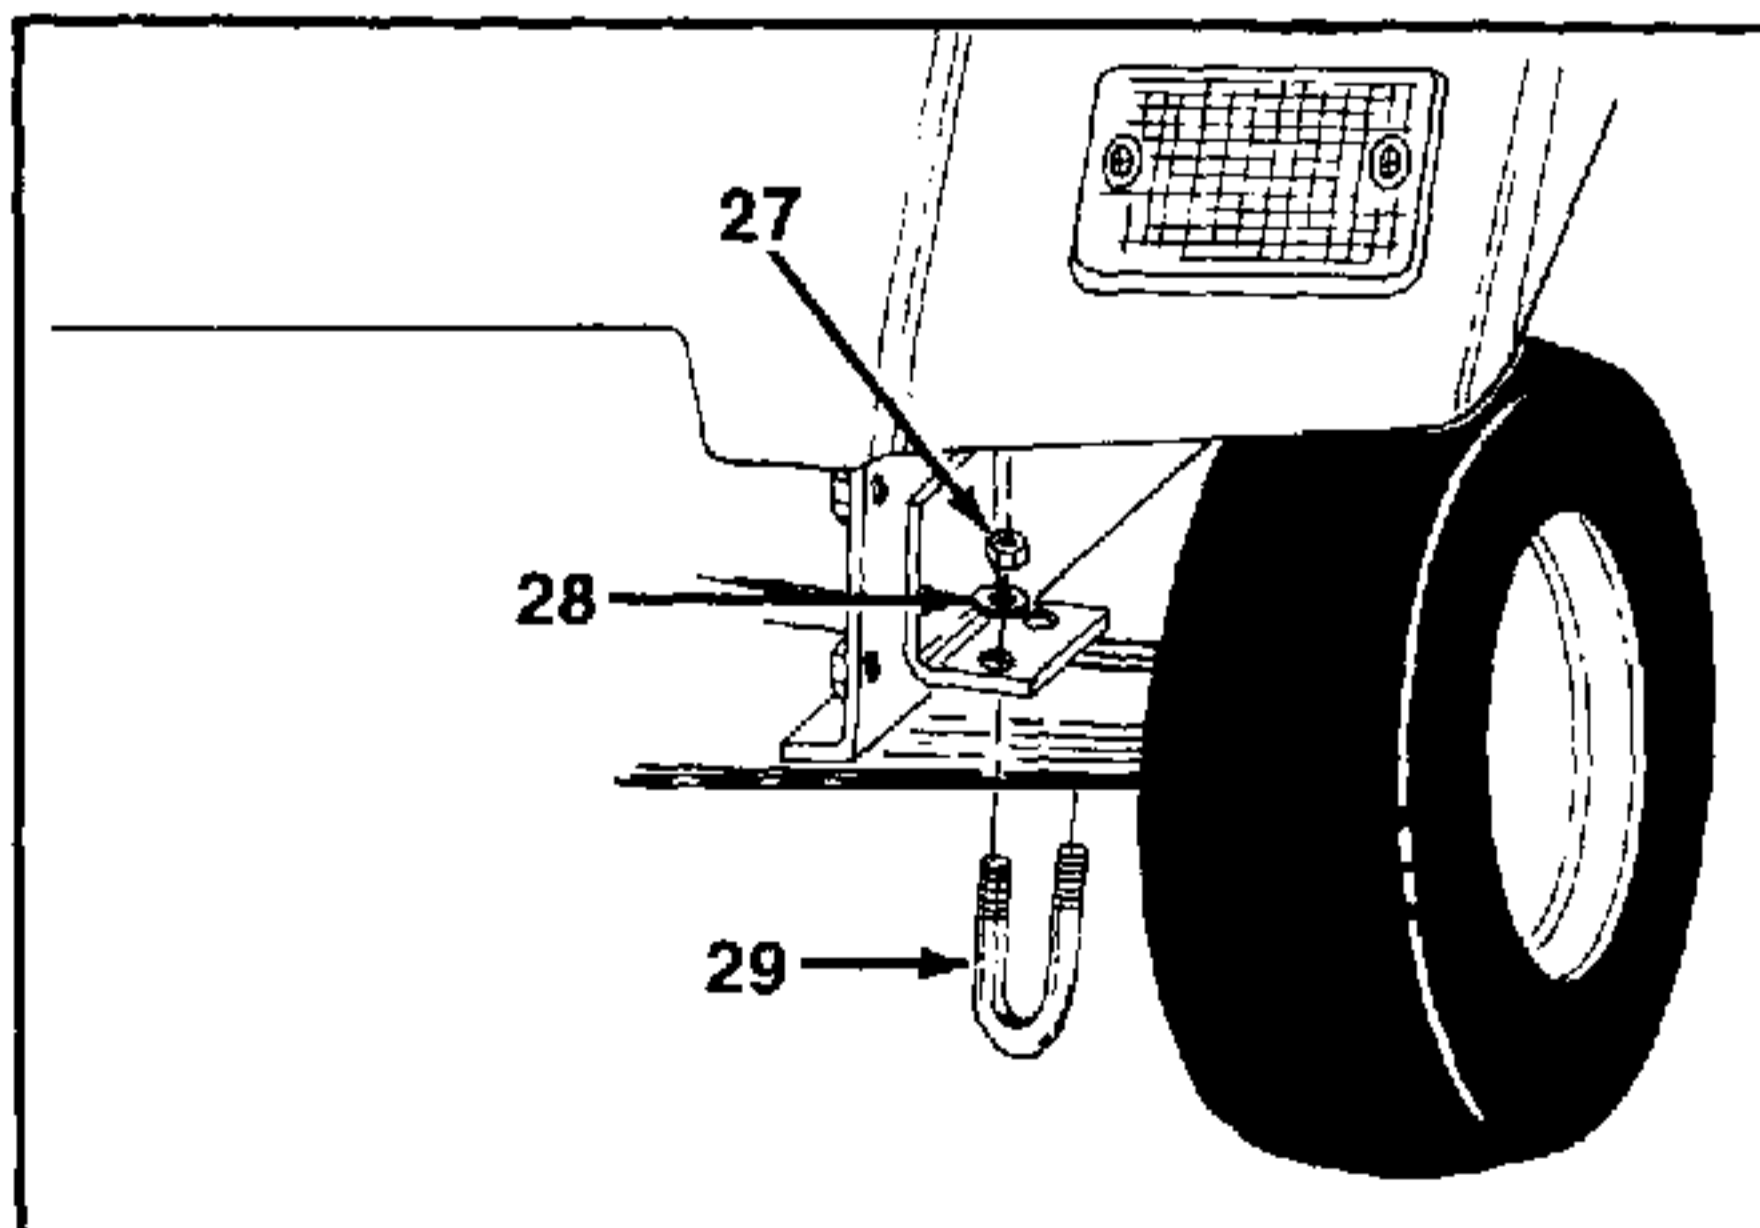

FIGURE 12.
17. Remove the hex nuts (Ref. 27) and lock washers (Ref. 28) from "U"-bolts (Ref. 29). See figure 12.